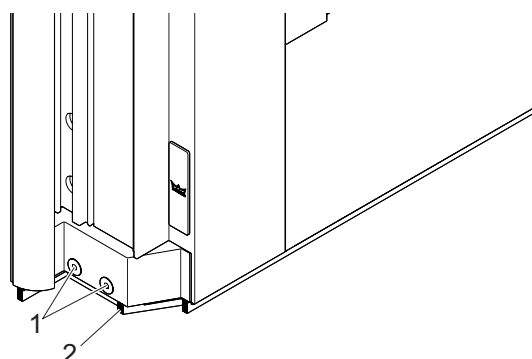

Fig. 41: Adjusting the brush
1. Slightly loose the screws (Fig. 41/1).
2. Move the center locking plate (Fig. 41/2) into the desired direction.
1. Loosen the screws (Fig. 41/1).
2. Push or pull the brushes (Fig. 41/2) for the adjustment.
3. Retighten the screws (Fig. 41/1).